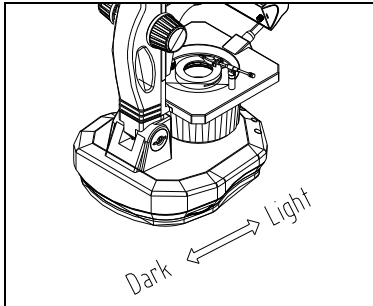

Figure 1
- (1) Connect main power supply and set main switch at “-”.
- (2) Use bottom light: Turn brightness adjusting knob to suitable. The direction showed. (Fig. 1)
- (3) 7W fluorescent bulb for top light and it can not adjusted for brightness. It has separate switch knob, show the figure below.